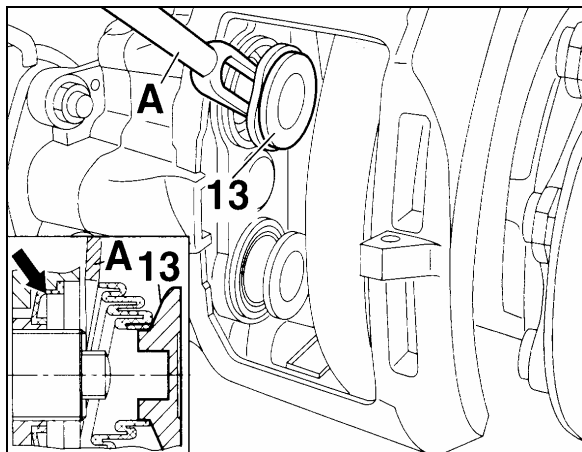

FIGURE 32: RUBBER BOOTS
- The rubber boots (13, Fig. 32) should show no damage, check the attachment.